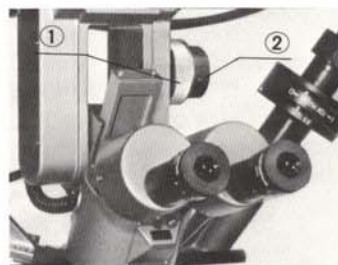

Fig. 16
b) Tilt knobs (Fig. 16)
- 1) Rotate the tilt knobs ② in either direction so as to obtain a proper tilt angle.
- 2) If the tension adjustment ring ① is properly tightened, the tilt angle can be freely adjusted only by rotating the tilt knobs ② without the use of the adjustment ring ①.